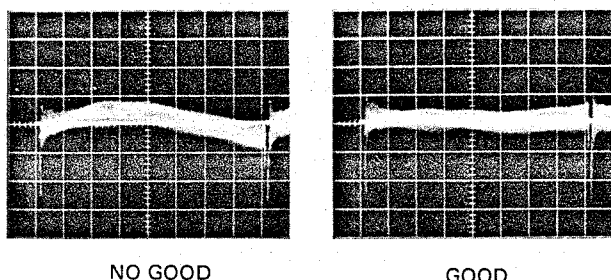

Fig. 6-4-29
- (2) R signal vertical shading adjustment
- Adjust R-V.SAW VR210 and R-V.PARA VR211 to make the waveform as flat as possible.(Fig.6-4-29)